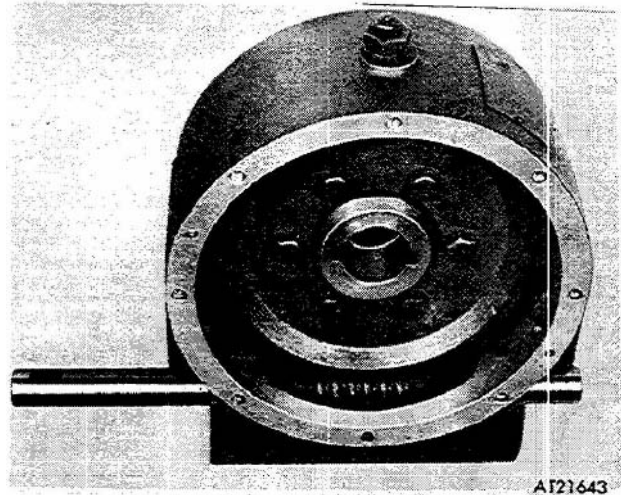

Figure 4-19. Proper installation of worm gear.
(13) Connect worm gear (15, fig 4-4) to hub (17) and secure with screw (20) and lock washer (19) Position assembled gear in gear housing (9) as shown in figure 4-19.